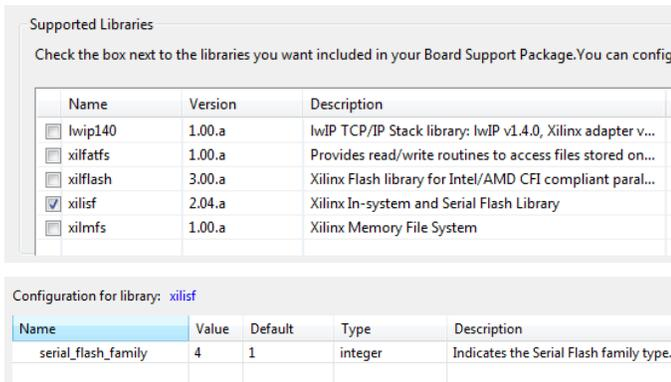

Fig. 5. Setting ISF Library with SPI Flash family.
- For both applications, we used the same Board Support Package (BSP) after having added and configured the ISF library as shown in figure 5 and described in [8].